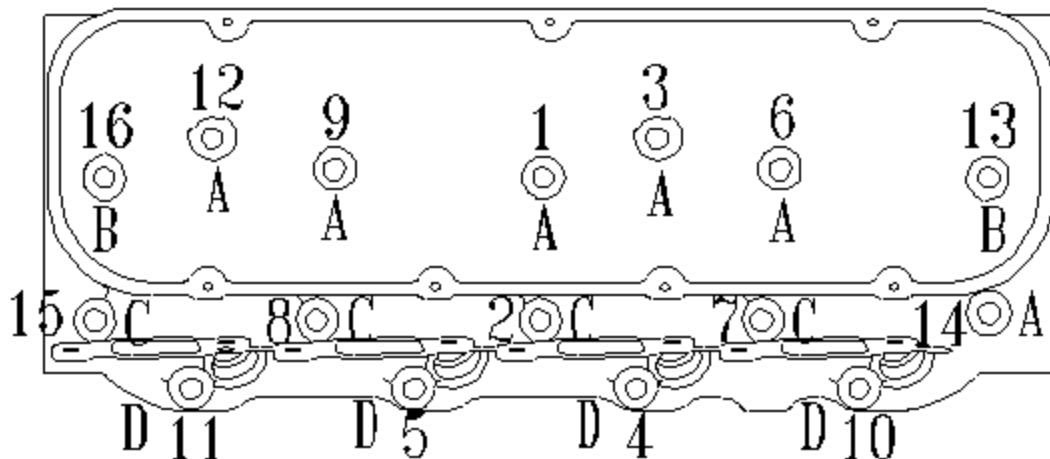

Figure 1 - Torque Sequence and Bolt Boss Type
- **ACCESSORIES & INSTALLATION ITEMS:** We highly recommend that premium quality hardware be used with your new heads. See our catalog for details. To order a catalog, call (800) FUN-TEAM, or visit our website at: [www.Edelbrock.com](http://www.Edelbrock.com)
**Head Bolts:** High quality head bolts or head studs with hardened washers must be used to prevent galling of the aluminum bolt bosses. Edelbrock Head Bolt Kit #8554 can be used with all 1965 and later big block Chevrolet engine blocks. The head bolt boss heights and required bolt lengths are listed in *Fig. 1*, along with the head bolt tightening sequence. The bolt bosses adjacent to the exhaust port exits (position 2, 7, 8, and 15), require a 5.50" long head bolt. These bosses have been raised to provide more material thickness between the head bolt boss counterbore and the exhaust port wall. Many of the other head bolt boss heights have also been adjusted to prevent head bolt bottoming in Mark IV, Gen V, and Gen VI engine blocks\*.
Installation is the same as for original equipment cylinder heads. Consult a service manual for specific procedures if necessary. For 454 and small Mark IV engines, use Fel-Pro head gasket #1017-1, or equivalent. For 502 c.i.d. Gen V and Gen VI engines, use Fel-Pro head gasket #1047 or equivalent. Be sure that the surface of the block and the surface of the head are cleaned thoroughly to remove any oily film before installation. Use alcohol or lacquer thinner on a lint-free rag to clean. Apply liquid Teflon PST or suitable thread sealer to head bolt threads that thread into coolant passages. Torque the head bolts to 70 ft/lbs in three steps, following the factory tightening sequence (*See Fig. 1*). A re-torque is recommended after initial start-up and cool-down (Allow 2-3 hours for adequate cooling).